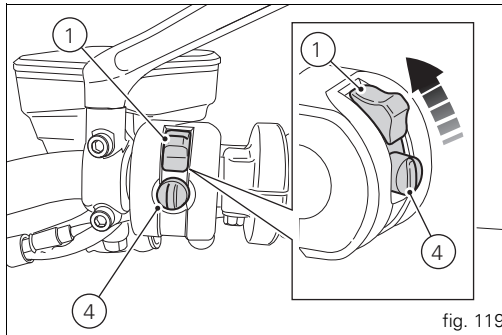

fig. 119
Move the red switch (1) up to uncover the black button (4, fig. 119).
The engine will shut off by turning the red key (1, fig. 119) on the handlebar to RUN OFF.